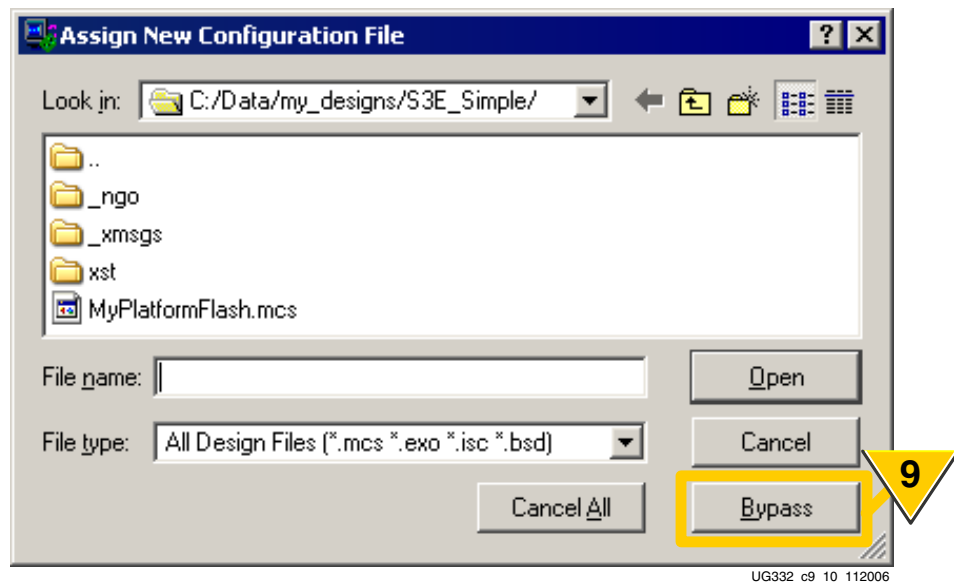

Figure 9-12: **Click Bypass to Skip Platform Flash Programming**
9. For faster downloading and a shorter FPGA debugging cycle, there is no need to program the Platform Flash PROM or CPLD unless actually desired. To skip programming the Platform Flash PROM, click Bypass, as shown in Figure 9-12.